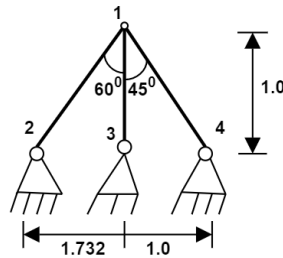

Figure 11
10. Analyze the truss given in Figure 11, member 13 is subject to a temperature change of  $100^{\circ}C$ . Where  $EA = 2 \times 10^4$  kN, the area of member 12 as  $2A$ , the area of member 13 as  $A$ , and the area of member 14 as  $A\sqrt{2}$ . [14M]